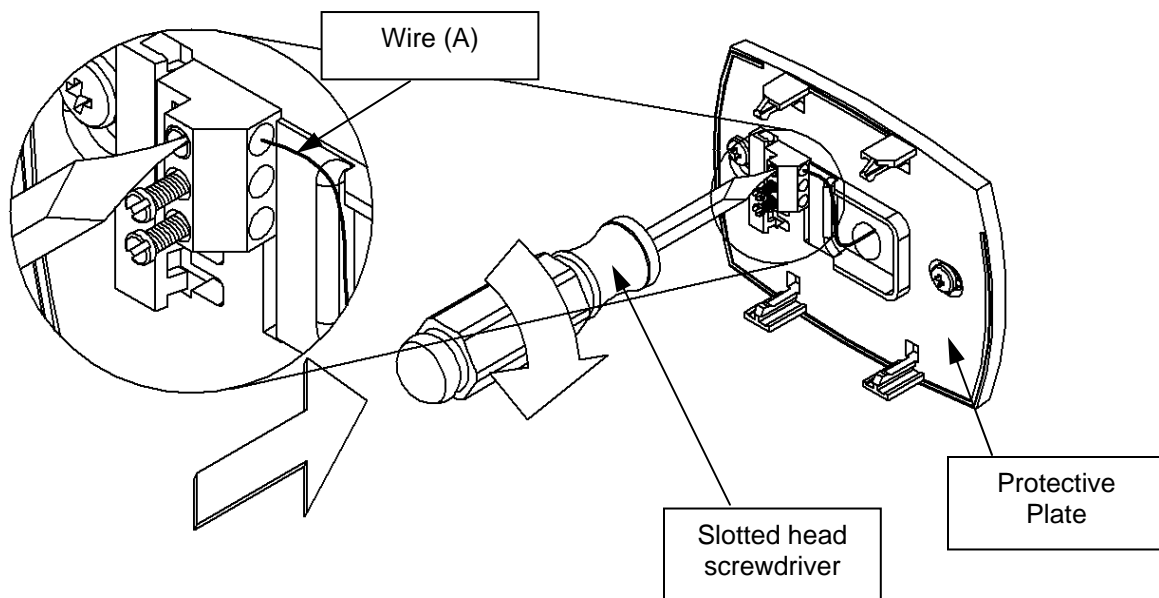

Figure 21
Step 16: Tighten the slotted screw in the top terminal location on the Protective Plate. This is shown in Figure 21.